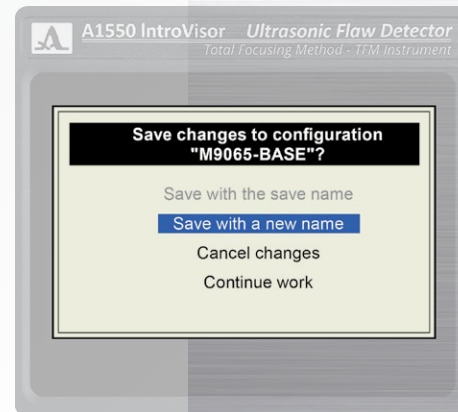

FIGURE 18
c. Press the  key and the confirmation screen shown in Figure 18 will be displayed.